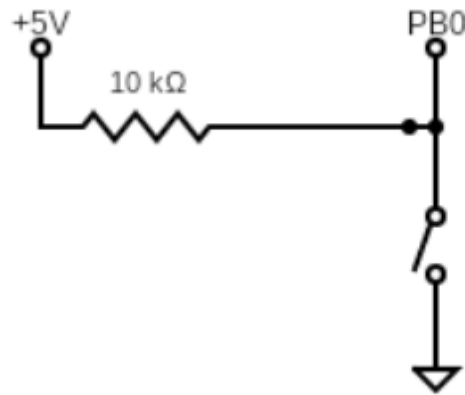

Figure 2: Connection to input port 5
2. Connect any input port, say PB0 to one end of DIP switch and other end to ground. Connect a 10 kΩ pull-up resistor to PB0 as shown in Figure 2.